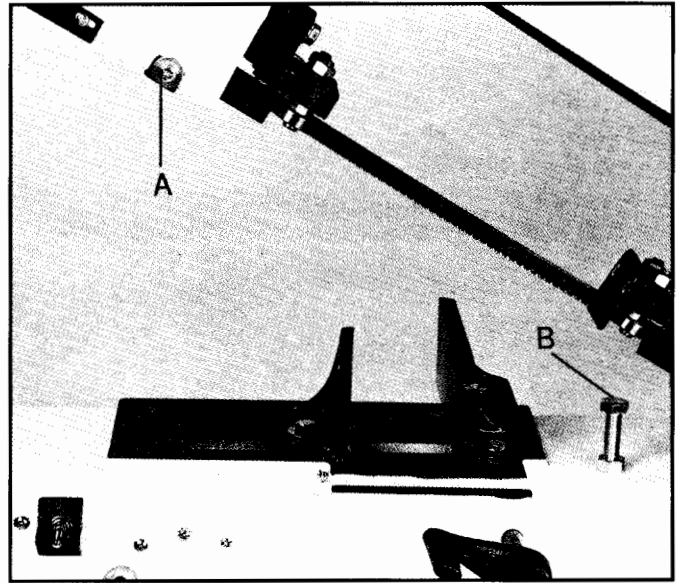

Fig. 14
- If the saw completes the cut and continues to run, adjust the stop tip (A, Fig. 14) down.
- If the saw shuts off before the cut is complete, adjust the stop tip (A, Fig. 14) up.
- If the saw stops cutting but continues to run, adjust the stop bolt (B, Fig. 14) down.